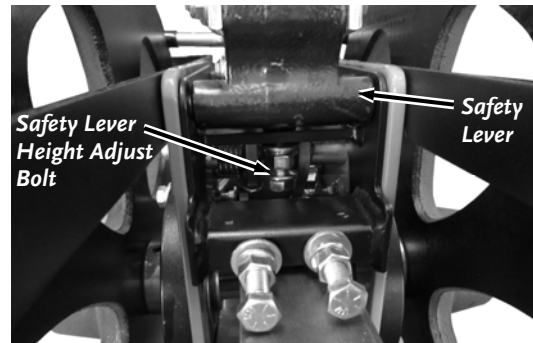

Figure 30
**Note:** If there is a Height Adjustment Bolt in front of the Yoke Grease Fitting preventing access (Figure 30), you will need to remove it using a 9/16" Wrench. Not all machines have the Height Adjustment Bolt.